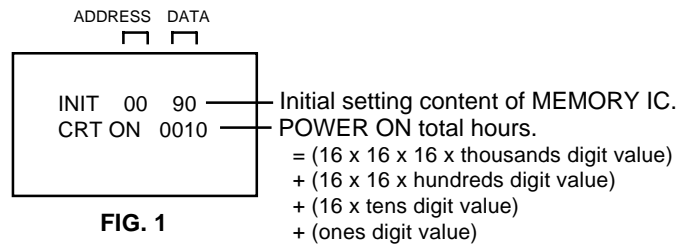

FIG. 1
2. Press both VOL. DOWN button on the set and Channel button (6) on the remote control for more than 1 second. ADDRESS and DATA should appear as FIG 1.
10. Press both VOL. DOWN button on the set and Channel button (1) on the remote control for more than 1 second.